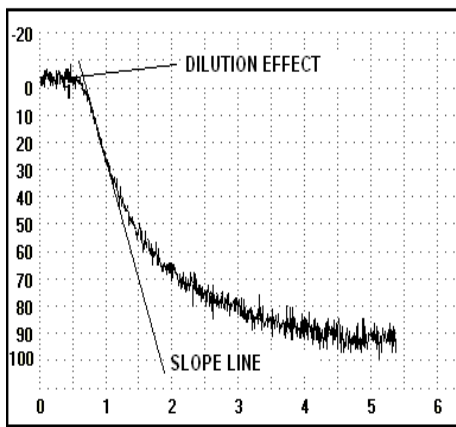

FIGURE 1
Select two points on the line. Measure the Y (vertical) axis and the X (horizontal) axis (see Figure 1). Calculate the Slope by dividing the Y axis by the X axis. Multiplying the sum by 10 then round off to the closest whole number.
1. Draw a line along the steepest linear portion of each agglutination curve (see Fig. 1). This is where the reaction rate is the greatest and occurs immediately after the onset of the agglutination. Additionally, there is a lag phase (delay time) from the addition of the plasma dilution to the onset of agglutination. That lag phase increases as the slope and the extent of agglutination decreases and is helpful in differentiating actual agglutination from artifactual changes in optical density.
2. Select two points on the line. Measure the Y (vertical) axis and the X (horizontal) axis (see Figure 1).